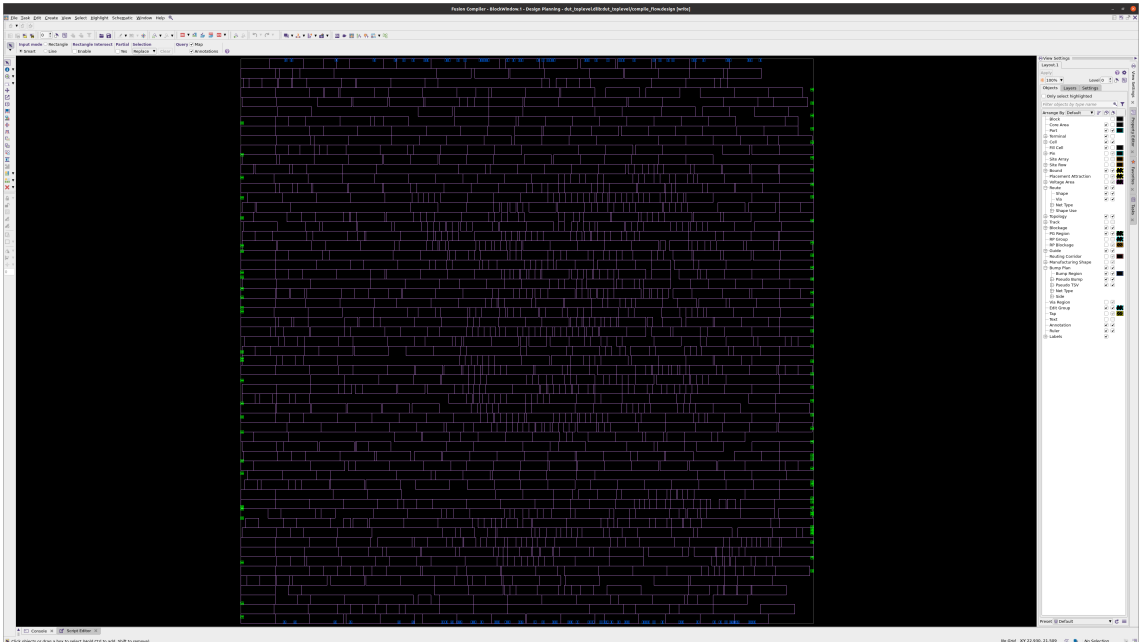

Figure 2.3: Layout after `initial_opto`.
5. `initial_opto` places the cells in rows and eliminates overlaps. (Fig. 2.3)